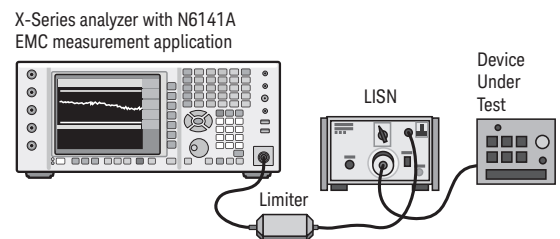

FIGURE 2. The device under test is connected to the analyzer via the LISN.
1. Connect the signal analyzer, limiter, LISN, and DUT (Figure 2). Measure the signals on the power line with the DUT turned off. If you see the signal approaching the established limit lines, some additional shielding may be required.